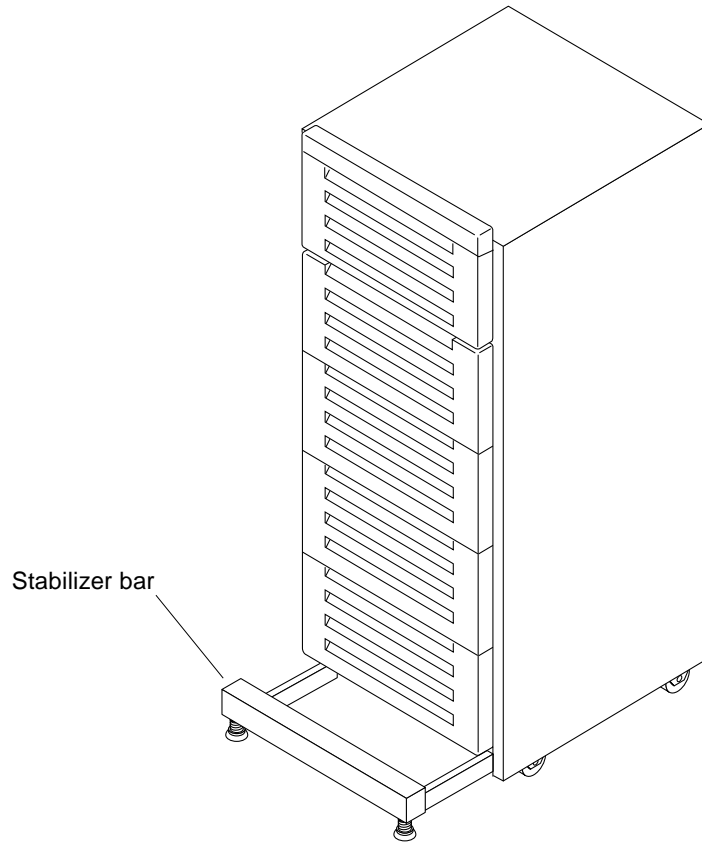

FIGURE 1-3 Stabilizer Bar
2. Fully extend the stabilizer bar from the bottom of the cabinet (FIGURE 1-3).